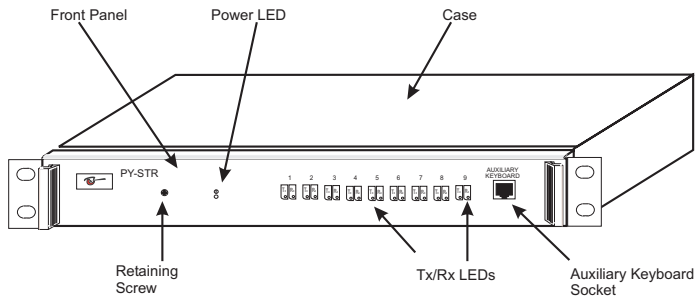

Figure 1 A Star Driver Module
- Using an appropriate screwdriver, remove the front panel retaining screw (see Figure 1)